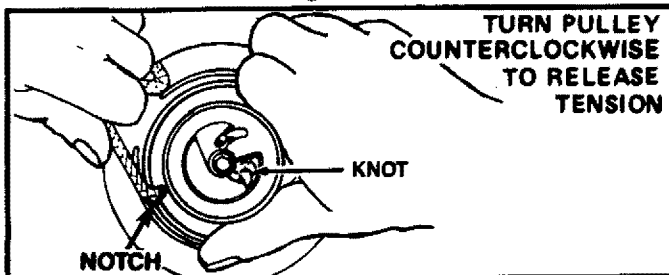

Figure 37
- a. Pull about 12 inches of rope from the pulley and catch the rope in the notch as shown in Figure 37.
10. Tie a knot in the end of the rope leaving no more than a 3/8 to 1/4 inch tail and pull the knot snugly into the corner of the groove in the pulley. Figure 37.
11. Tuck the tail on the rope knot into the inner curved section to avoid interference with the flywheel. Figure 37 & 39.